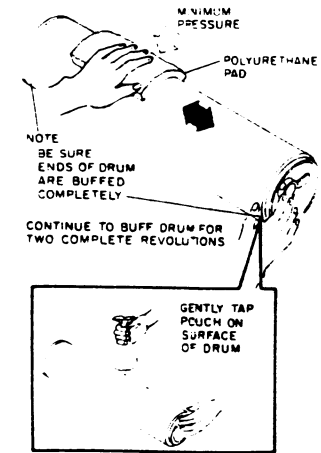

Figure 4. Buffing the Surface of Drum
2. BUFF SURFACE OF DRUM WITH ZINC STEARATE (FIGURE 4).